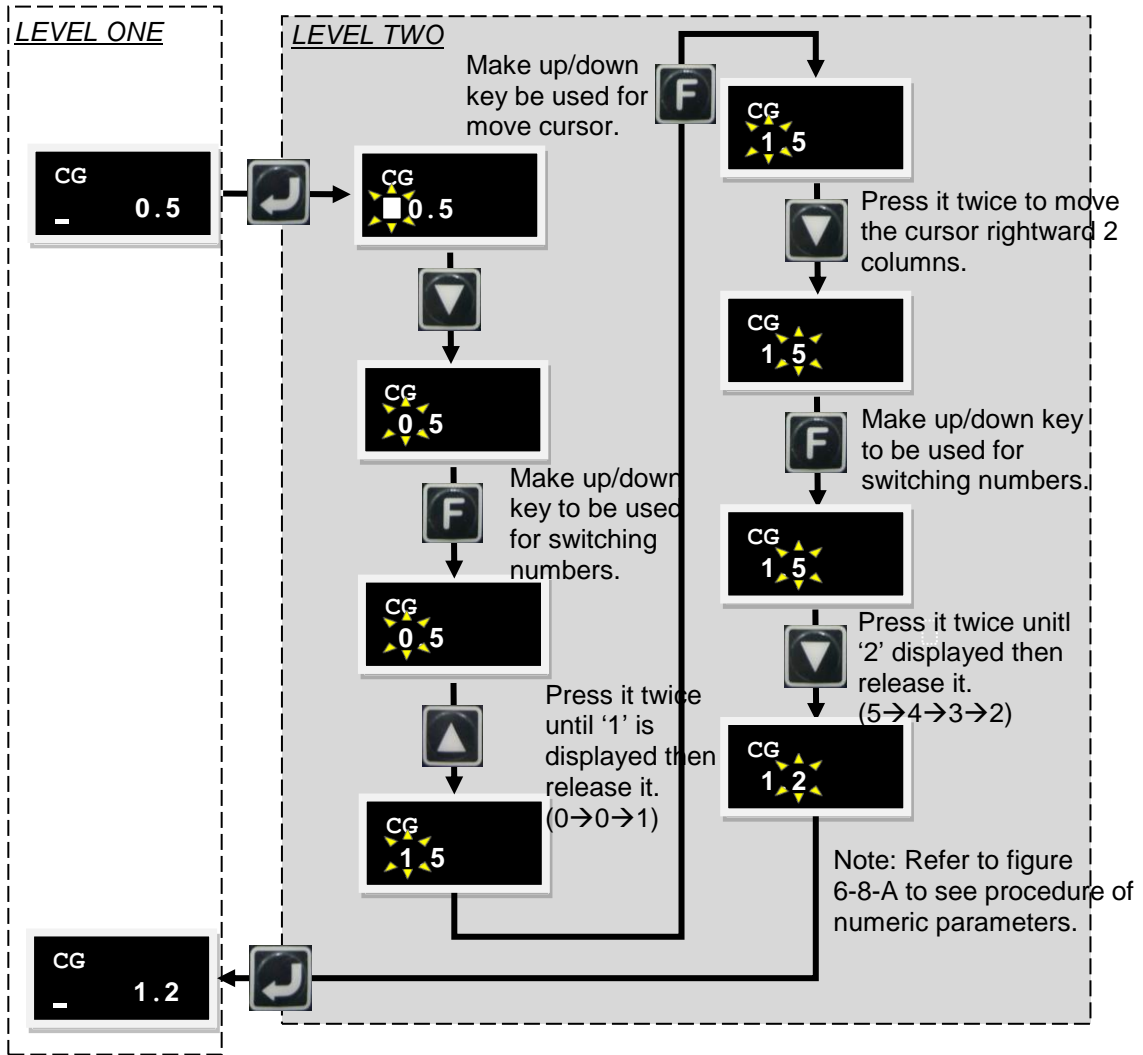

Figure 6-8 A example of COMMON GAIN of flow chart of configure parameters with COMMON GAIN
The configurable parameters in the drive like CG, VPG, and ST_CG etc which is assigned a number as its value could be configured using configure parameters function of LCD. In configure parameters page up and down keys are used to move cursor or switch numbers. Press the F key to switch this function. The coming introduction is for the operation procedure of the Common gain (CG) modification. Any configurable parameter could be operated as this procedure to do modification. First the common gain will be changed from 0.5 to 1.2. For example, after entering the COMMON GAIN menu, follow the below sequence. To do parameter modification and operation, the procedure is shown in Figure 6-8.
- (1) Press ENTER to enter CG configuration mode. (A flashing solid cursor will be at left side of second line)
- (2) Press the down key once to move the flashing cursor to '0' position.
- (3) Press the F key once. (Switch the function of up/down key to numeric parameters modification)
- (4) Press the up key twice until the number changes to '1' then release it.
- (5) Press the F key once. (Switch the function of up/down key to move cursor)
- (6) Press the down key twice to move the flashing cursor to '5' position.
- (7) Press the F key once. (Switch the function of the up/down key to numeric parameters modification)
- (8) Press the down key twice until the number changes to '2' then release it.
- (9) Press the ENTER key to done of COMMON GAIN changed to 1.2.